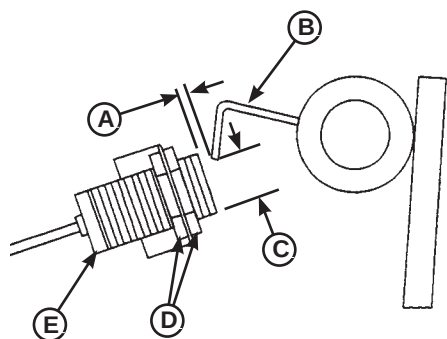

Figure 37
3. Press the RAISE push button. The dock leveler should NOT raise. If the leveler did not raise, proceed with step 4. If the leveler did raise, decrease dimension "A" or "B", Figure 37, so that the target is in the sensing range of the switch. Typical factory settings for "A" and "B" are approximately 3/4" and 1/8" respectively. Make adjustments at switch (dimension B) and/or target (dimension A) until leveler does not raise when the vehicle restraint is not engaged on transport vehicles RIG bar.